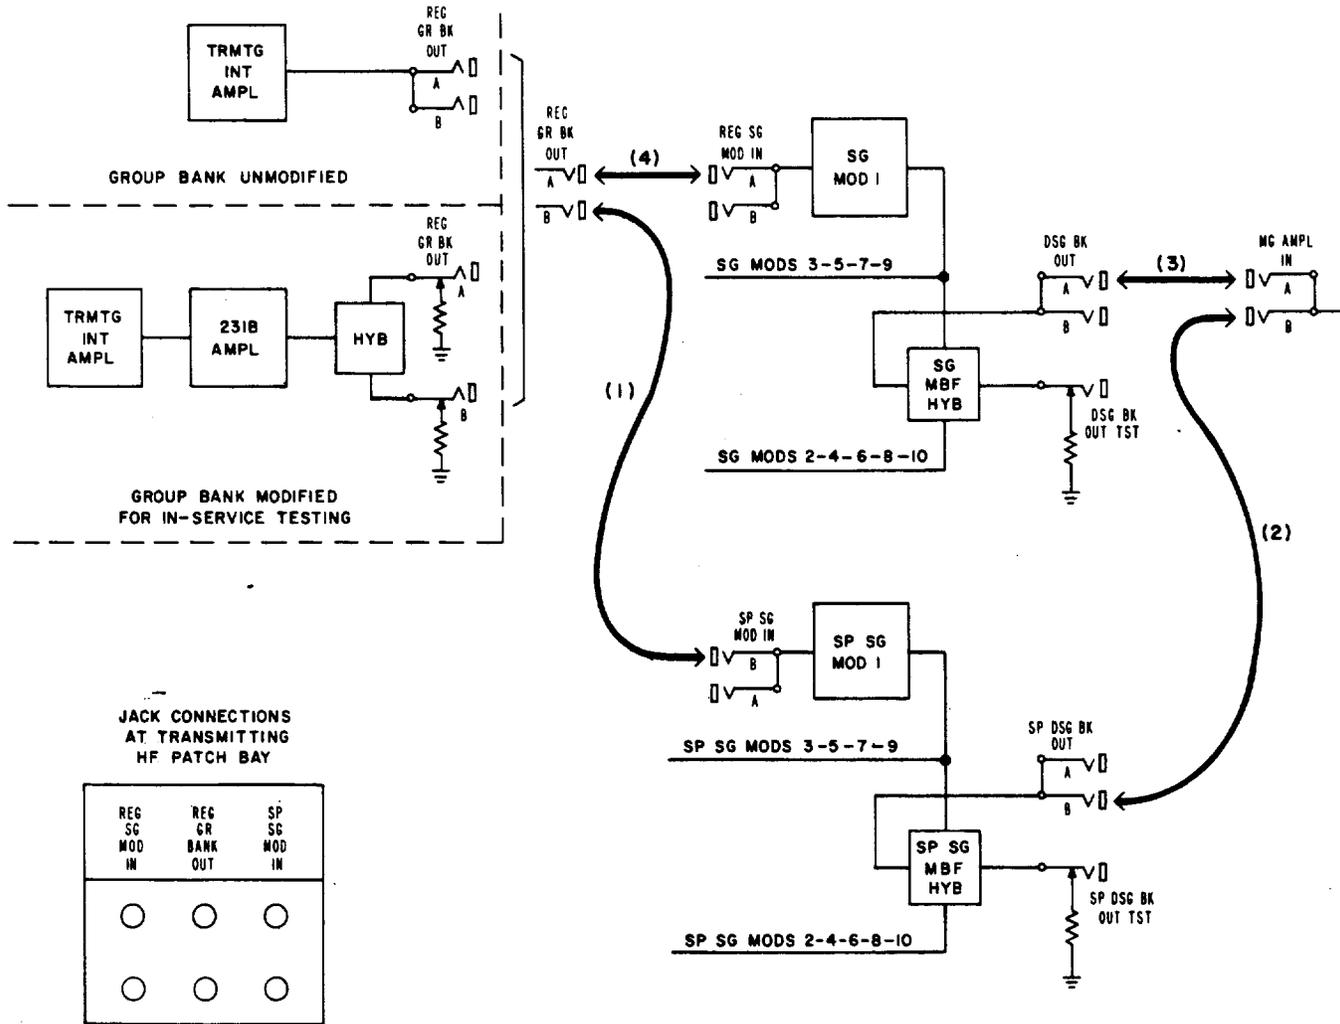

Fig. 5—Patching L1860A Transmitting Supergroup Equipment
10	Make patch (1) in Fig. 5 by patching to the SP SG MOD IN B jack and then to the GR BK OUT B jack.